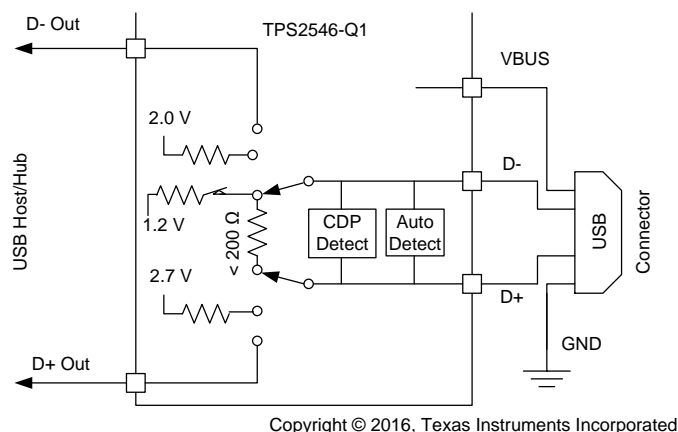

Figure 31. DCP 1.2-V Charging Scheme
1.2-V charging scheme is used by some handheld devices to enable fast charging at 2 A. TPS2546-Q1 supports this scheme in the DCP-Auto mode before the device enters BC1.2 shorted mode. To simulate this charging scheme D+/D– lines are shorted and pulled-up to 1.2 V for fixed duration then device moves to DCP shorted mode as defined in BC1.2 specification. This is shown in Figure 31